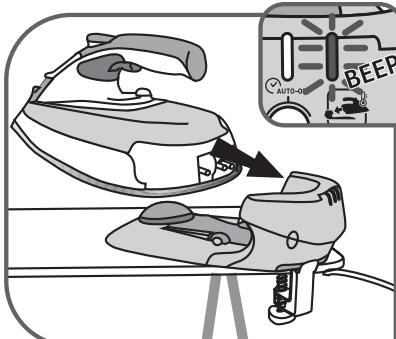

Fig.14
- The flashing red light and beep sounds after around 30s when the iron is not on its base: the iron must be replaced on the base for recharging – **fig.14**.